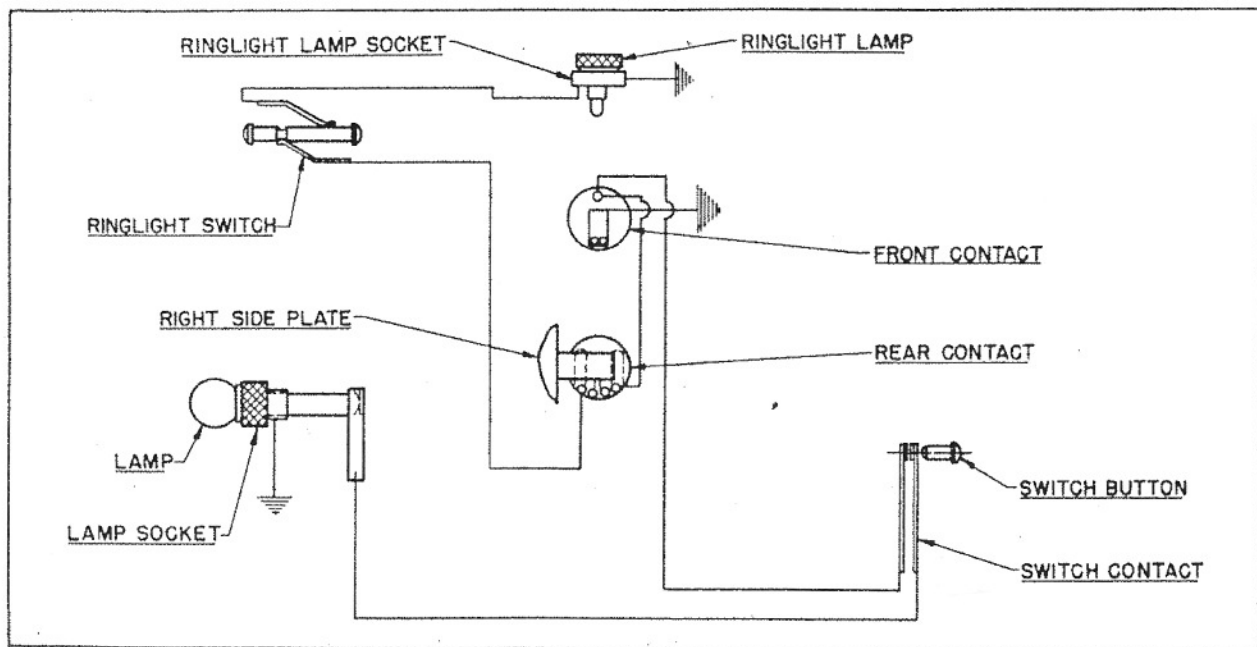

Figure 25 - Wiring Diagram - Aircraft Sextant - Type A-5 (1067)
4. Resolder the wire from the front insulator assembly to the rear insulator assembly (refer to wiring diagram figure 25) and fasten the rear insulator assembly, insulating washer, and screw washer onto the bracket with the screw and nut.
(b) Thread the wire from the spring contact assembly on the right side plate through the hole in the left side plate and solder it to the movable contact spring assembly. Guide the wire from the battery front insulator assembly through the hole in the left side plate and solder it to the stationary contact spring assembly. Refer to wiring diagram figure 25.
(b) Solder the wire which passes through the telescope casting to the contact on the battery rear insulator assembly. Refer to wiring diagram figure 25.